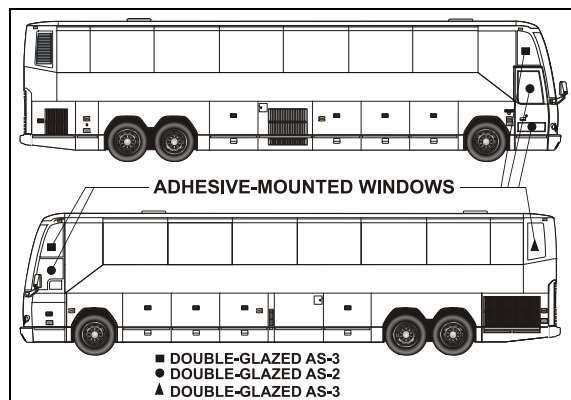

FIGURE 43: ADHESIVE-MOUNTED WINDOWS 18494
These windows are located in the vehicle's front and rear caps (Figure 43).
2. Pull down on both release latches simultaneously and rotate the sash inwards approximately 10 degrees.(Figure 43)